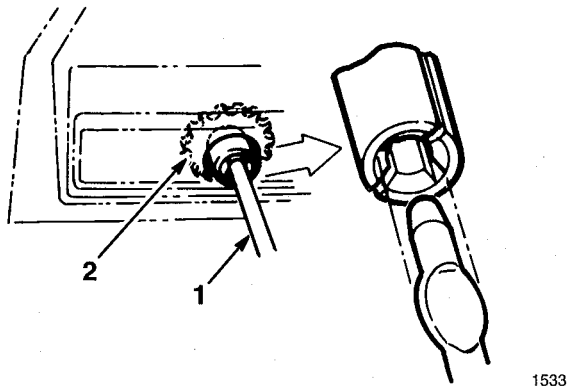

Figure 3
- 2. Secure deflector to discharge chute with (2) 5/16–18 carriage bolts, metal washers, and locknuts. Make sure the square shoulders on the carriage bolts align with inside square on discharge chute. Position metal washers to the outside of deflector as shown in Figure 3. **DO NOT OVERTIGHTEN BOLTS.**